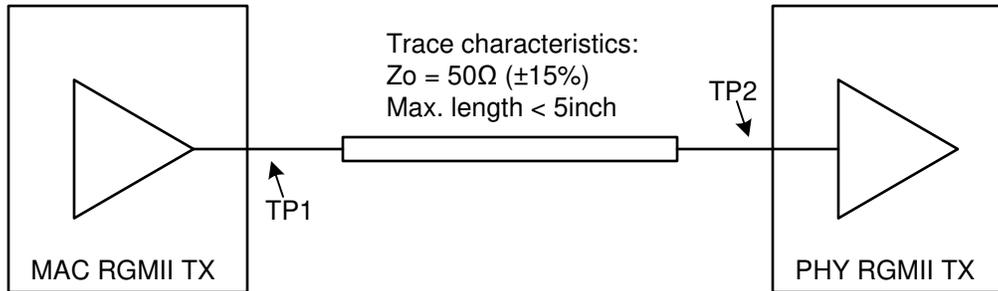

Figure 7-14. RGMII TX Requirements
- Figure 7-14 shows a RGMII interface requirements for TX* signals. MAC RGMII driver output impedance should be 50Ohm+/-20%.
- Skew for all RGMII TX signals at TP2, in Figure 7-14, should be $\pm 500\text{ps}$.
- Signal Integrity at TP1 and TP2, in Figure 7-14, should be verified with IBIS model simulation and ensured conformance to following requirements: